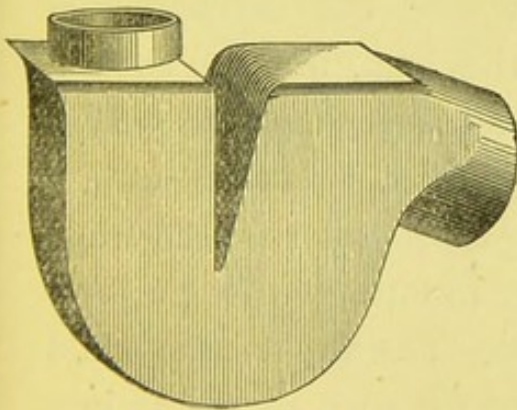
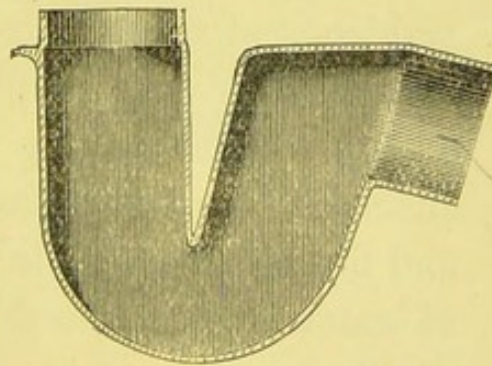

FIG. 10.
FIG. 11. SECTION.
*"Mansion" Water-closet Trap or "V-Dip" Trap.*—This trap, Fig. 10 (also see Section, Fig. 11),